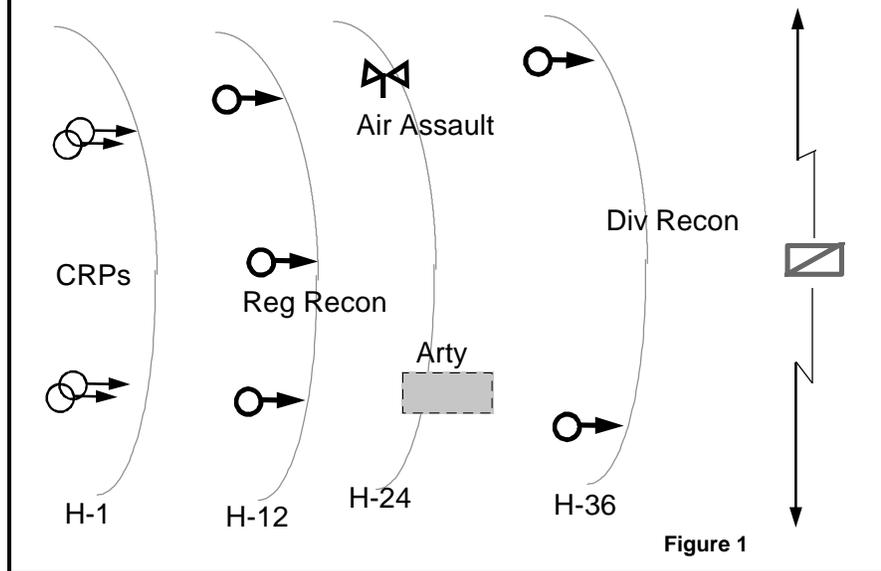

Figure 1
**Intelligence:** The commander of the counterrecon force needs to develop a "Threat Database" during the planning phase (FM 34-130). This tool is made up of three components: an enemy order of battle (OOB), overlaid on the current mission timeline, referenced against the enemy's objectives. To start, establish the order of battle with the number of enemy recon elements and from which echelon, for example: two divisional recon patrols followed by three regimental recon patrols in our sector with a possible air insertion of a 15-man patrol on hills in our northern sector (see Figure 1). Next, overlay the OOB onto the enemy's mission timeline. Depending on when the security mission begins, some enemy recon elements may already be in your area of operations. This obviously impacts movement techniques and affects the actions of those conducting operations to the rear. Finally, evaluate these two items in terms of the enemy's objectives. Just because the enemy has four